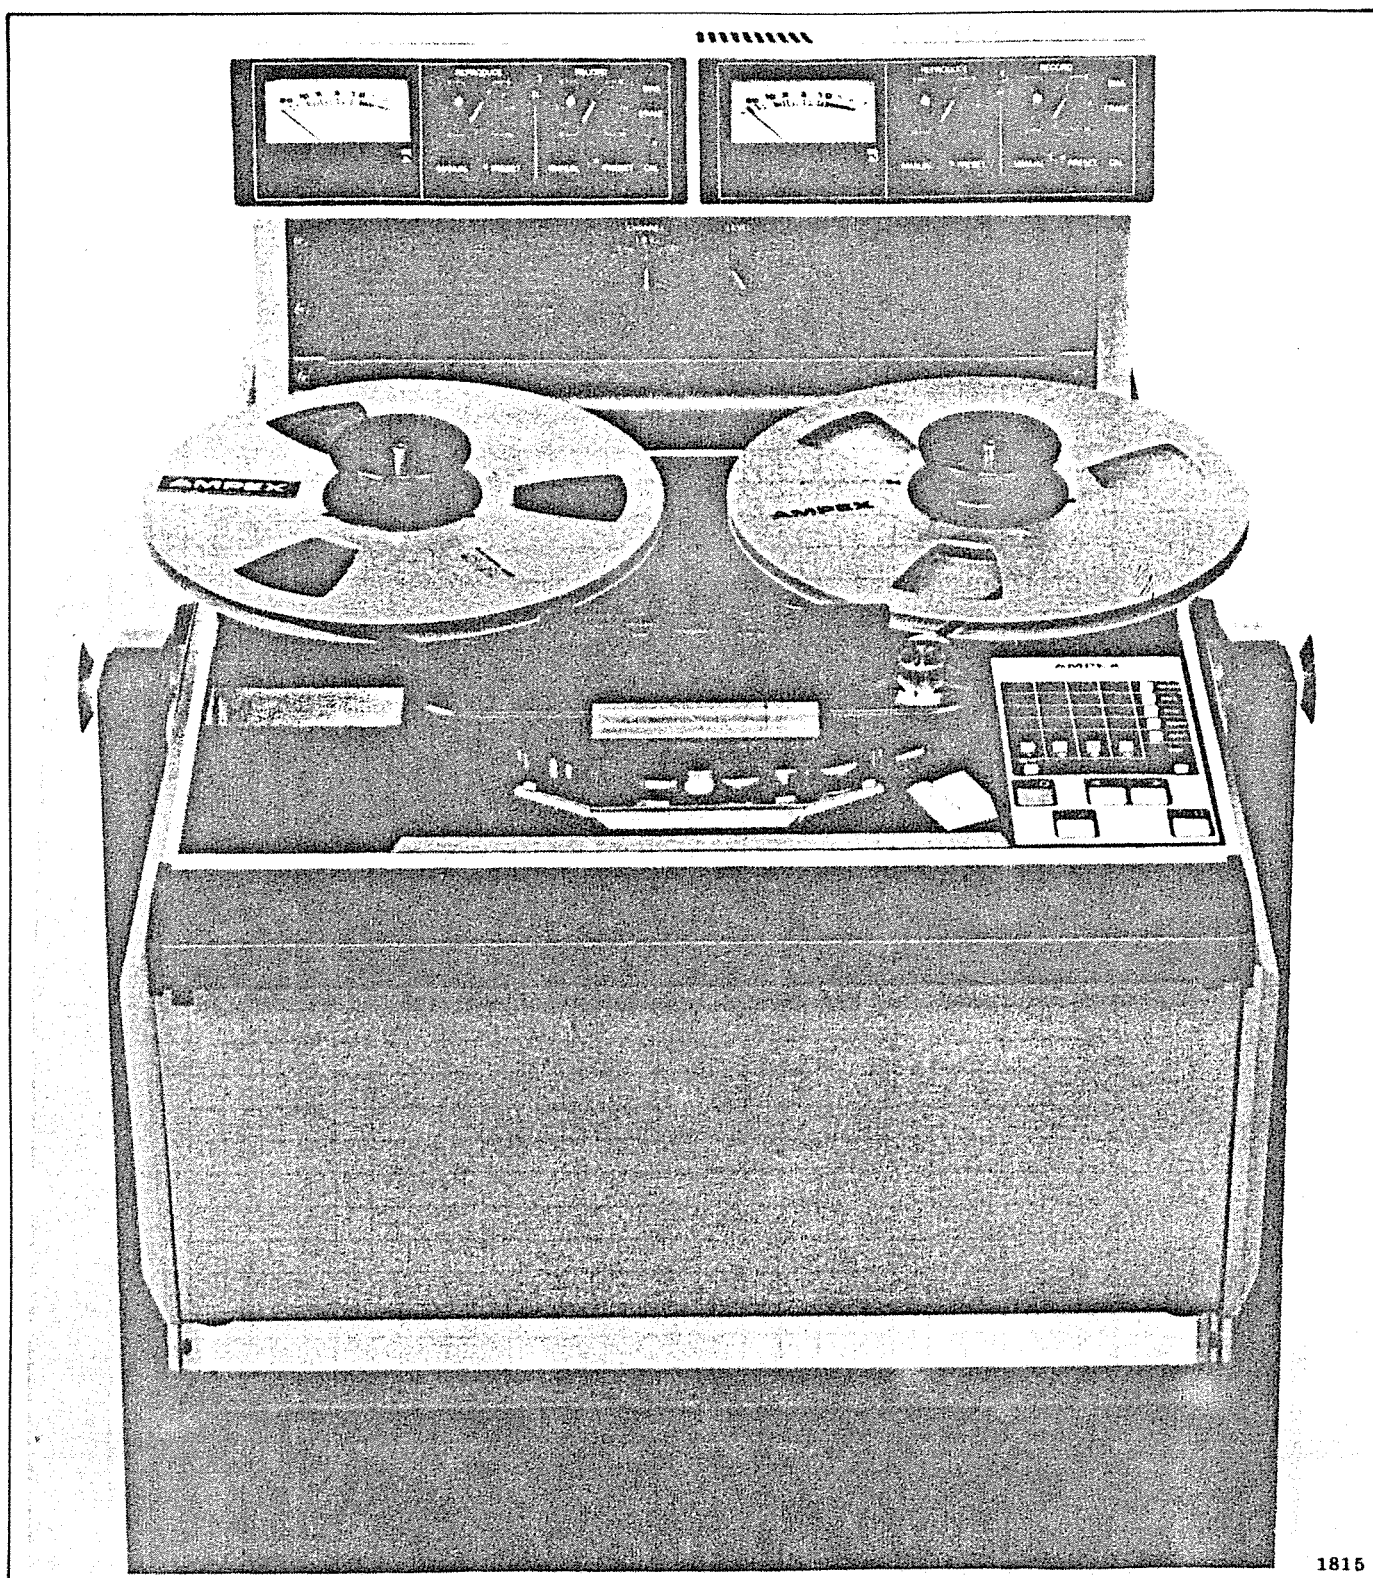

Figure 7. Edit Kit, Installation Complete
34. For completed installation, see Figure 7.